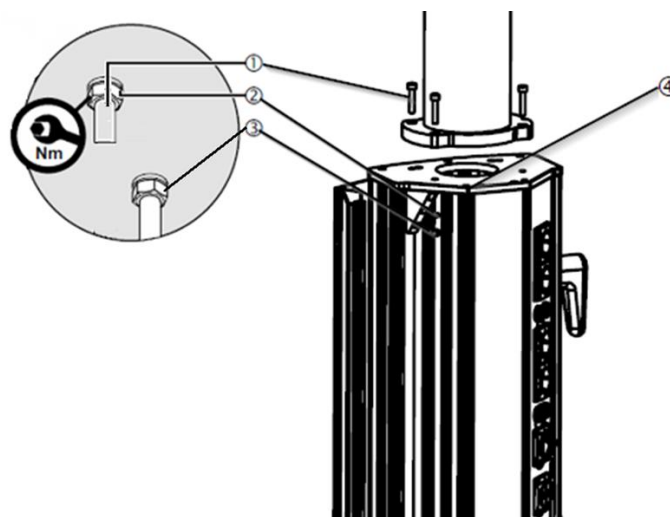

Fig. 16 Disassembly / assembly of the service head on the drop tube.
- Release the 4 M8 socket head cap screws ① that secure the service head.
- Carefully pass the new hoses ① through the pendant system and onto the interface plate as shown in figure 16.